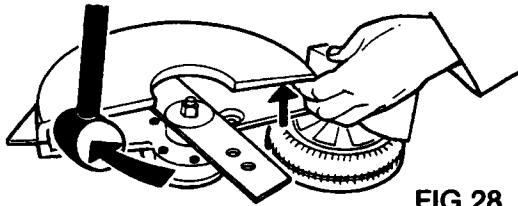

FIG 28
1. Lift and tap with hammer in clockwise direction (Fig 28).